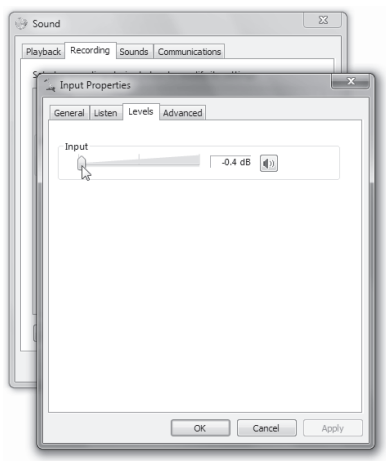
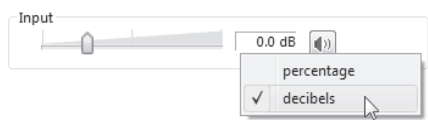

Figure 4
Figure 5
6. To set the gain (volume) settings. Select the "Properties" button, then select the "Levels" tab. The "Input" volume control should be set as close as possible to 0 dB to get the best dynamic range (Figure 4). If the level is set higher than this, the noise will be unnecessarily high. The "Input" volume level can be shown in either percent or dB, by right-clicking on it (Figure 5).